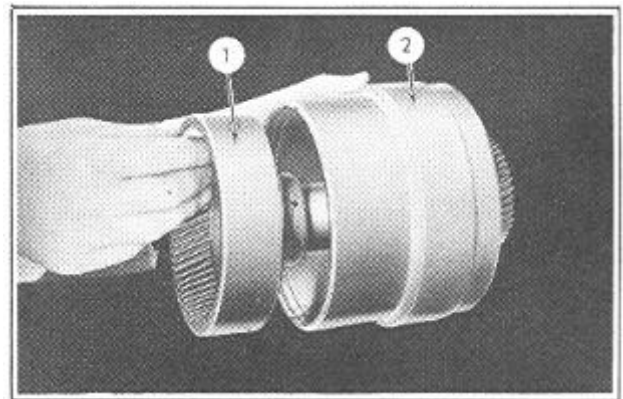

FIGURE 111
2. Remove the rear ring gear (1), Figure 111, from the low brake drum (2).